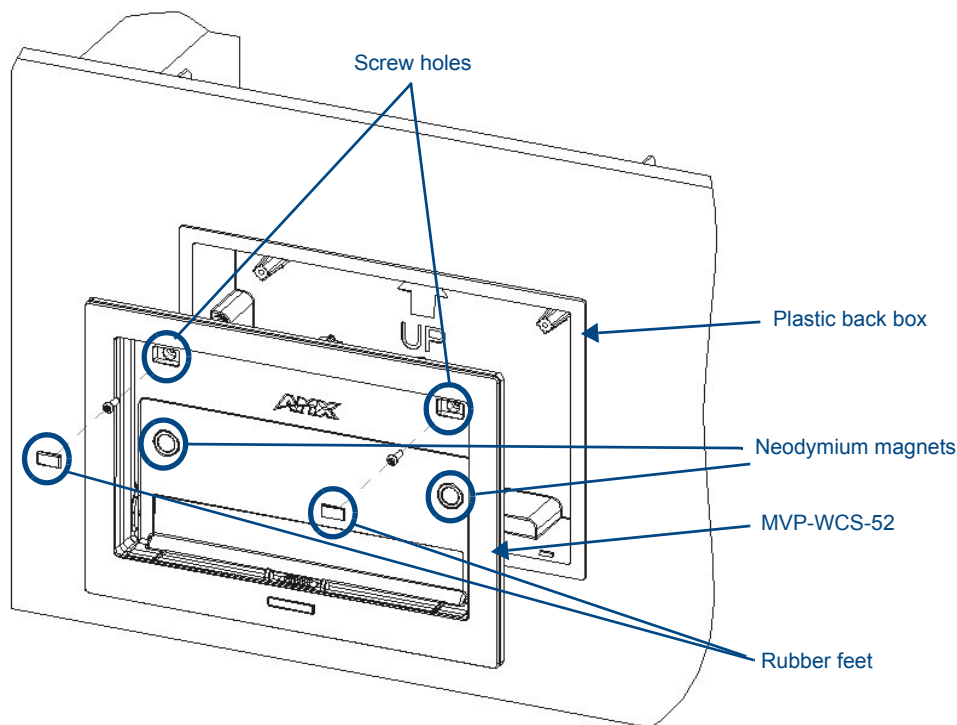

FIG. 13 Installation of MVP-WCS-52
10. Insert the two installation screws from the MVP-WCS-52 Installation Kit into the screw holes in the interior compartment of the device and tighten them to anchor the device to the box (FIG. 13).